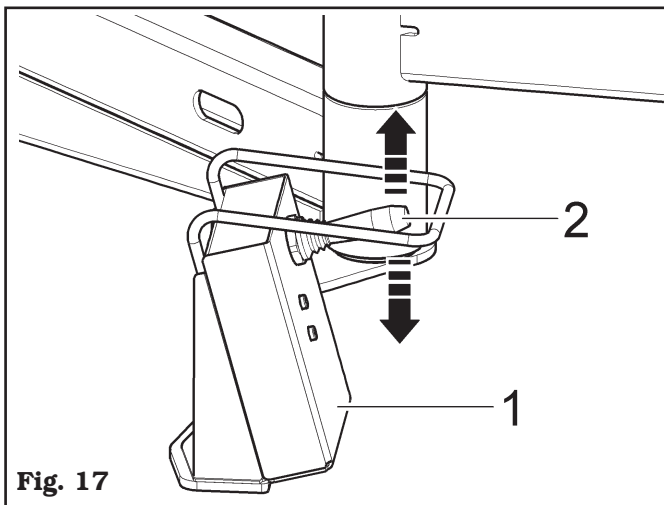

Fig. 17
It is made up of an handle control (Fig. 17 ref. 1), positioned on the device. This handle control allows to operate the vertical translation of the presser roll (Fig. 1-2-3-4 ref. 4) and of the rotating bead depressing roll unit (Fig. 1-2-3-4 ref. 1). Lift the lever (Fig. 17 ref. 2) to operate the upwards translation, and lower the lever (Fig. 17 ref. 2) to perform the downwards translation. The device arms positioning next to the tyre is a completely manual operation.